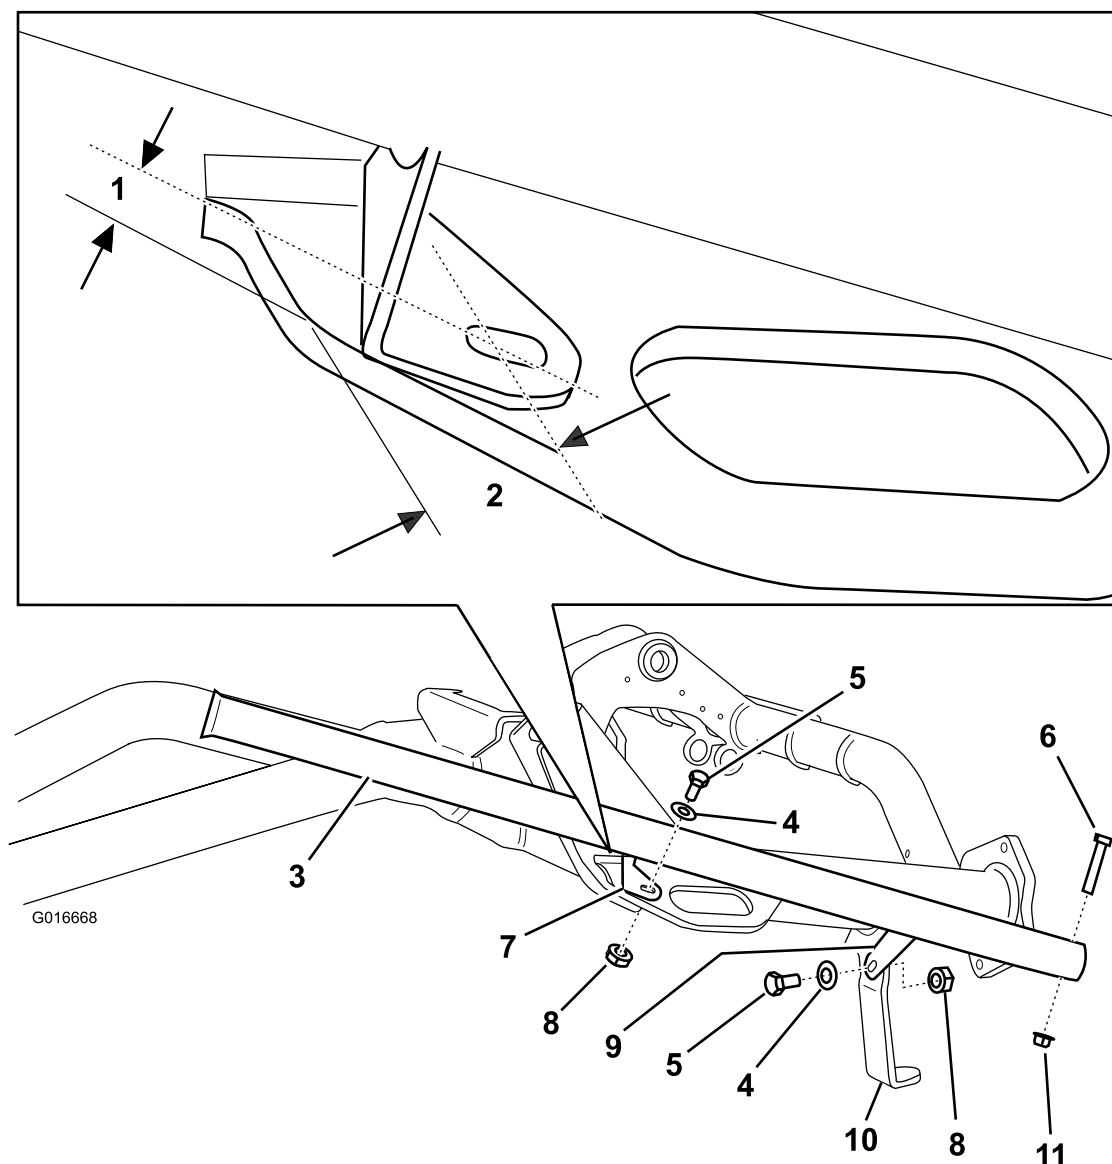

Figure 1
2. Position the rear bracket of the dew whip holder as shown in the inset of Figure 1, and ensure that the front bracket of the dew whip holder rests against the bracket on the machine (Figure 1).
3. Using the slot in the rear bracket as a template (Figure 1), mark and drill a 11/32-inch (9 mm) diameter hole through the frame member.